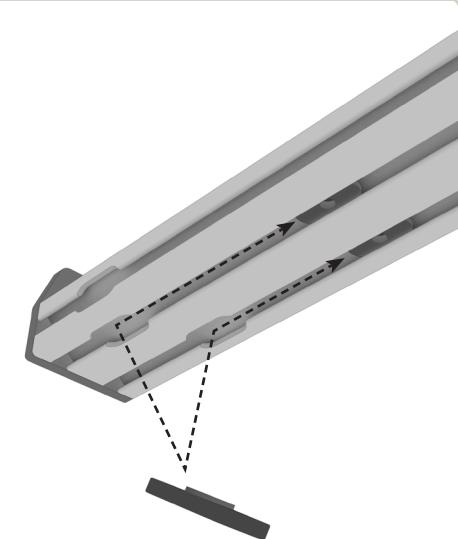

FIG 7
3.2 Insert T-Nuts: Slide (2) 1/4-20 T-Nuts into the cutouts of the Crossbar (FIG 7).